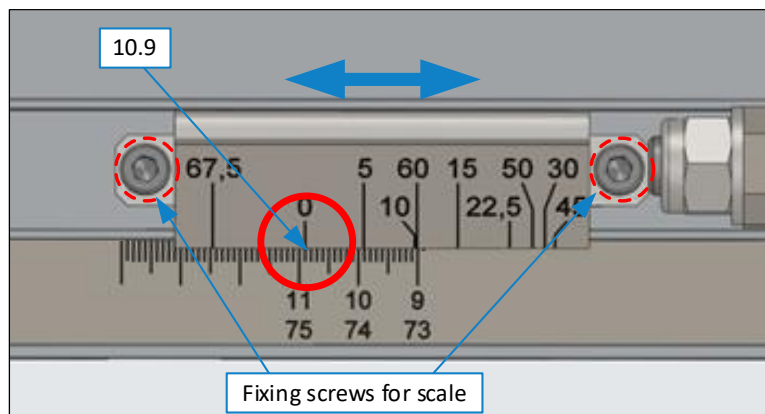

Figure 4: Adjusting the DSG-A (4)
9. The length measurement must correspond to position "0" ($\triangleq 90^\circ$) on the angle scale ($\Rightarrow$ Figure 4).
10. If the length measurement does not correspond to the "0" position, leave the DSG-A fence in the clamped state, loosen the screws of the scale, and move it until the 0 of the upper scale corresponds exactly to the measured value ($\Rightarrow$ Figure 4). Then re-tighten the screws.
Example: If a piece of material is cut with the setting 110 mm, but it only has 109 mm when measured, the scale display must be shifted so that the 0 corresponds to the value 10.9 ($\triangleq 109$ mm) on the lower scale (see $\Rightarrow$ Figure 4).